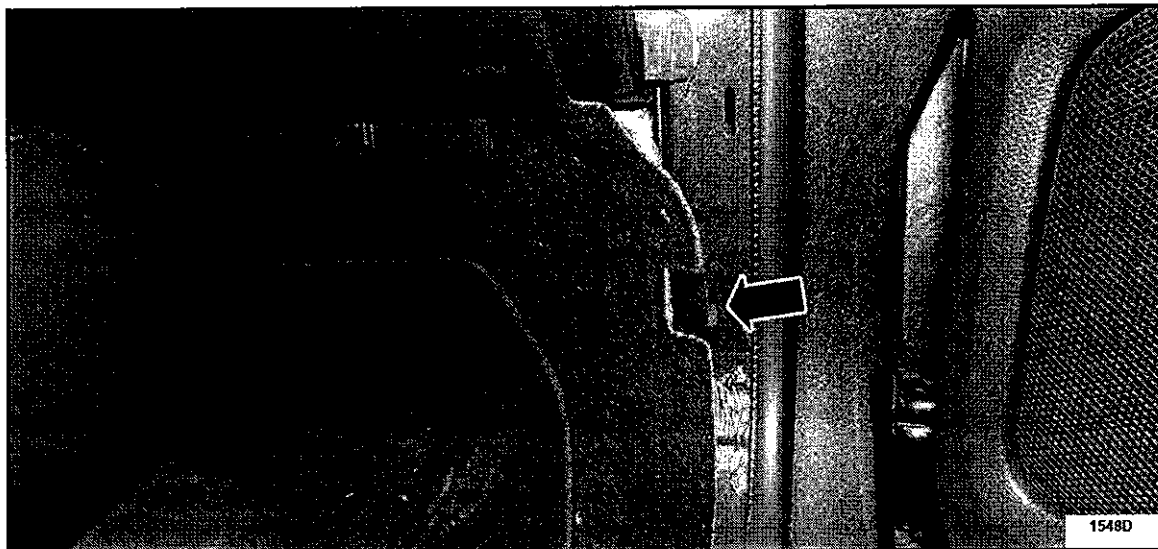

FIGURE 6
7. Using a cotton swab or a piece of paper/cardboard, check for the presence of standing water and visually check for the evidence of water/dampness in the lower A-pillar on both the LH and RH sides of the vehicle through the interior cowl trim panel lower attaching clip retainer opening. See Figure 6.